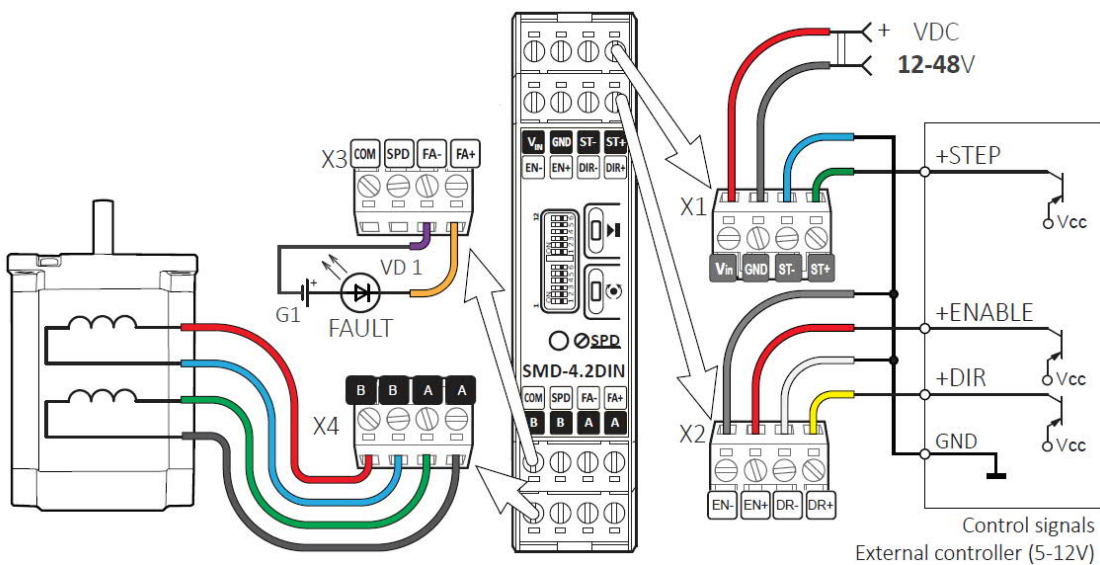

Fig.3. Example of connection to a source of logical signals STEP/DIR/ENABLE - open collector, PNP
- Open the housing as shown in figure 3;